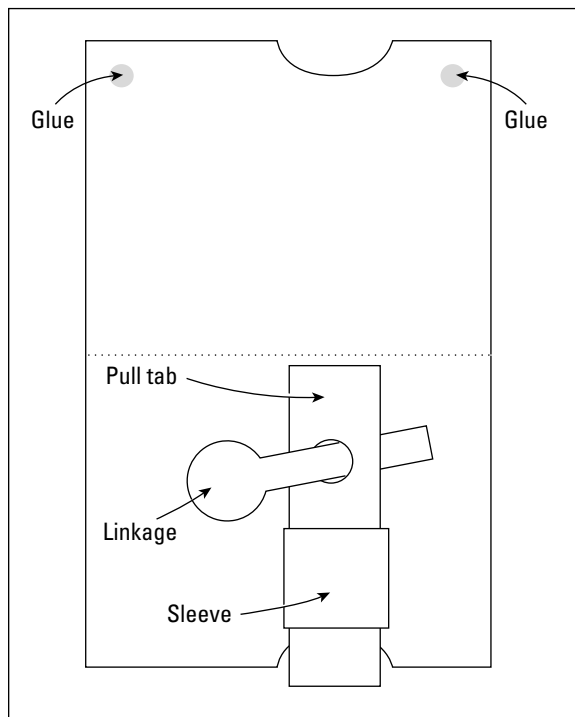

Figure 7-7:
1. Move the arm so that it's sticking out from the side of the body in the 10 o'clock position. Flip the card over and compare it to Figure 7-7 as you complete the next few steps.